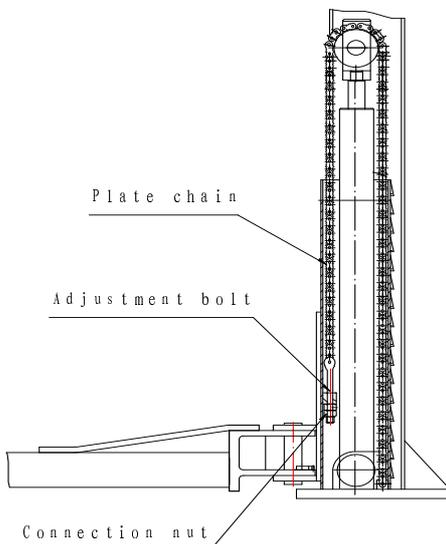

Fig. 6
- Check to see if the connection between hydraulic cylinder and carriage is proper, if the connecting nut between the steel chain and carriage is loose or falling. Refer to Fig.6.